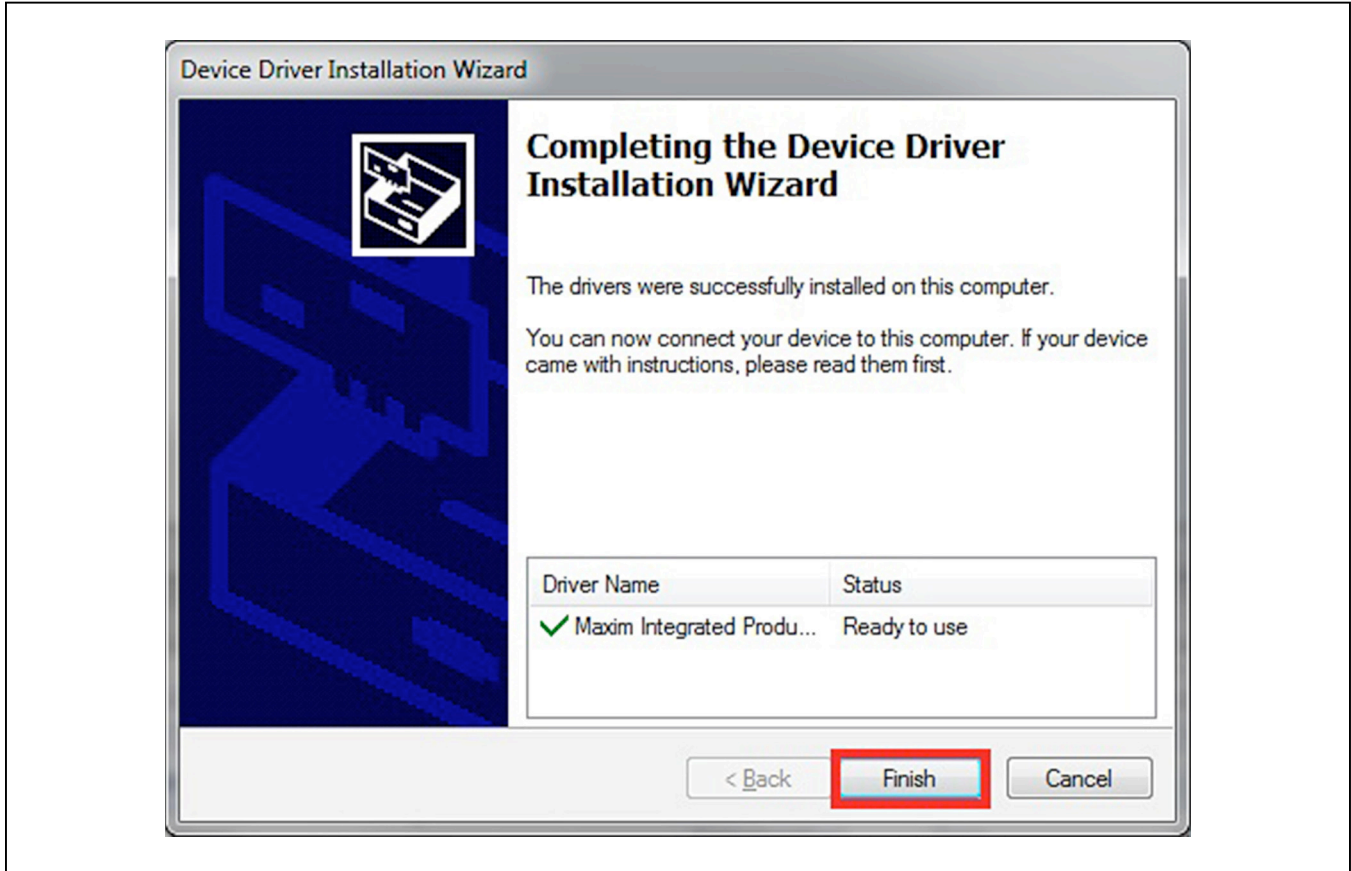

Figure 7. Device Driver Installation Finished
9) Click on Finish to close the final window and confirm the driver is installed correctly (Figure 7).